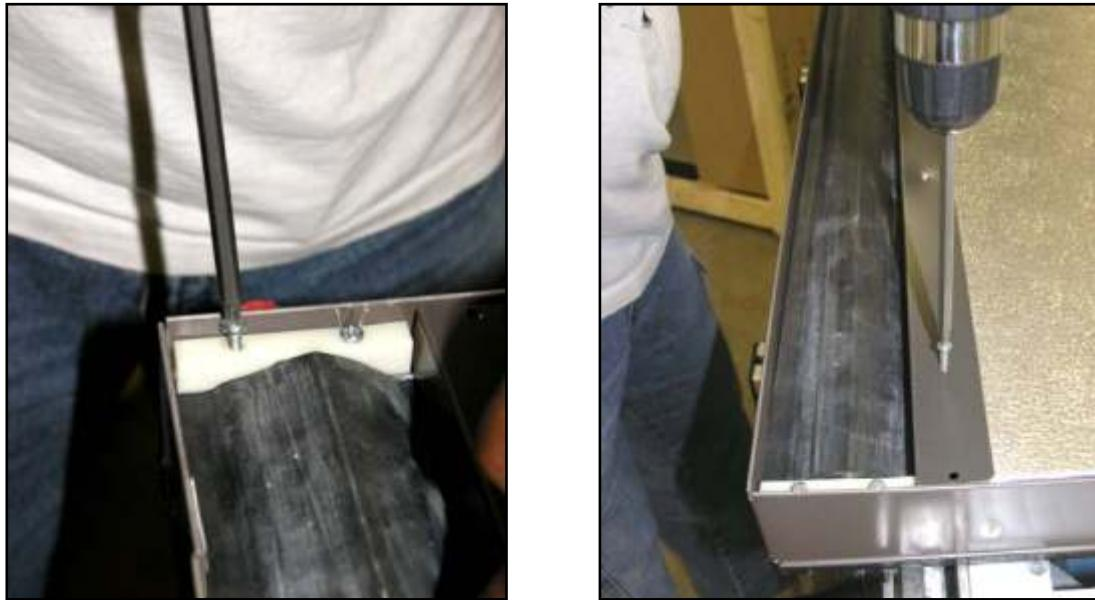

Fig. 6.1.6 – Securing stagnation-control hinge blocks and damper channel.
6. Ensure damper is properly aligned with collector frame and secure hinge blocks (Fig. 6.1.6). Secure damper channel with long self-drilling screws (Fig. 61.6). Note these screws pass through outer and inner walls of damper channel, sandwiching collector backing.